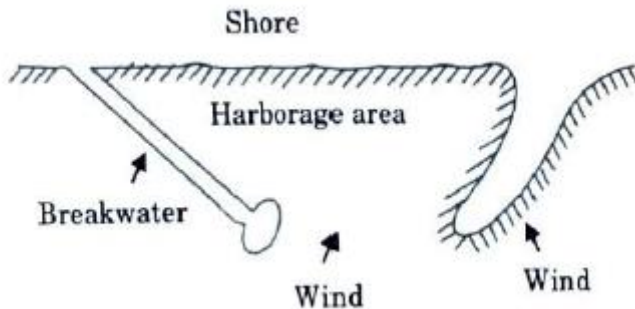

Fig. 5.1.2. Semi-natural harbour.
- ii. **Semi-natural Harbours :** This type of harbour is protected on sides by headlands and it requires man-made protection only at the entrance as shown in Fig. 5.1.2. Visakhapatnam is a semi-natural harbour.